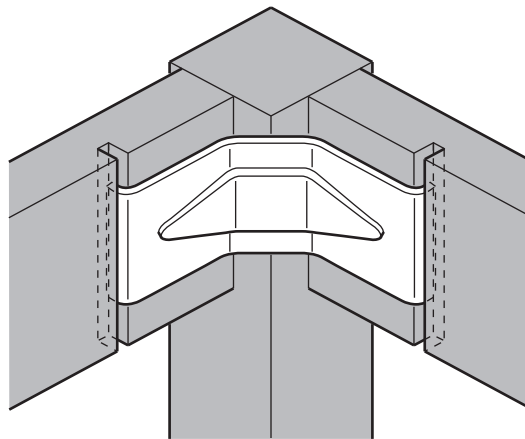

**Fig. 1**
- 1 Fig. 1 shows a door bolt made from steel for use in a bathroom. The bolt has a chrome finish.